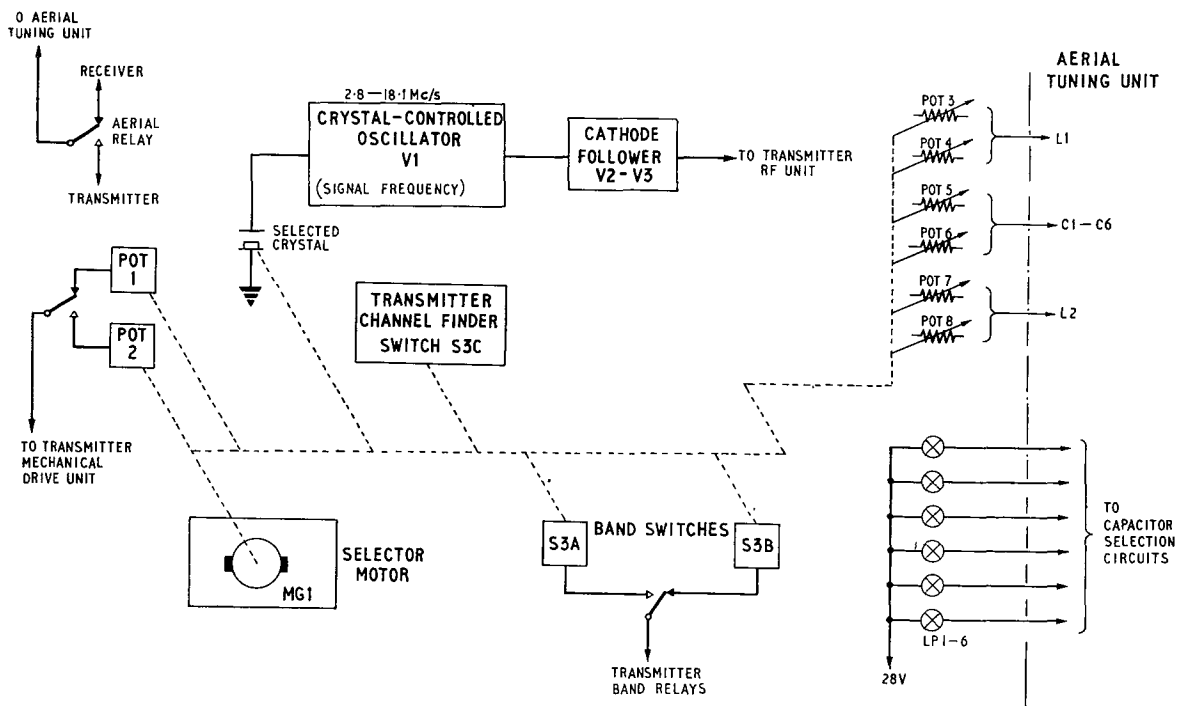

Fig. 5. Block schematic of control and drive unit
16. A complete circuit diagram is given in fig. 6. The circuit can be divided into four parts, three of which are indicated in the block schematic fig. 5.